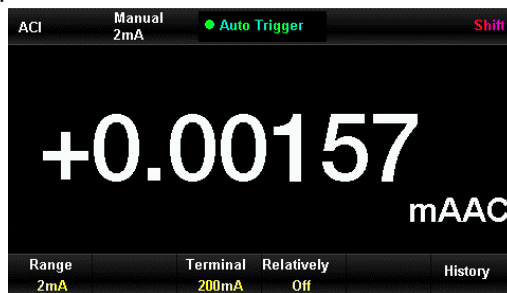

Figure 2-11 Interface of AC voltage measuring
- 1) Press **Shift** button and press **~V** button to enter interface of AC current measurement as Figure 2-11.